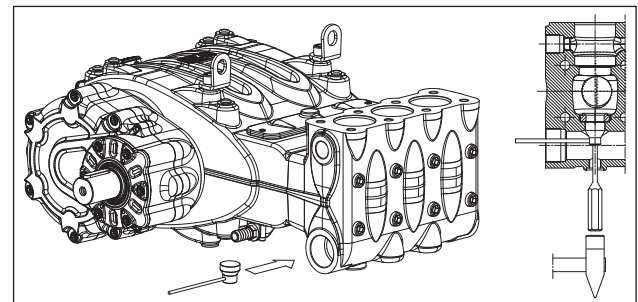

Fig. 108
If removing the suction valve insert proves to be particularly difficult (for example because of incrustations due to prolonged inactivity of the pump), use the extractor tool code 27516200 (pos. ①, Fig. 108) and proceed as instructed.